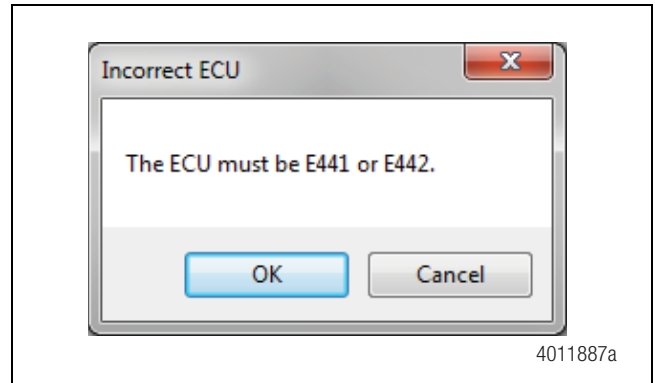

Figure 7
- A. If the ECU does not have E4.4 software E441 or E442, it cannot be used with this TOOLWrench. Figure 7.